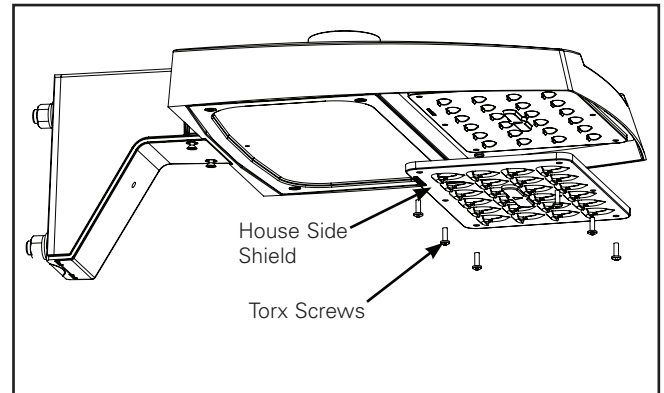

Figure 15.
2. Place house side shield over the optics. All six screw holes will align with the optic if the house side shield is installed correctly. (Figure 15)
3. Re-install all six torx screws and torque to 10 to 15 in-lbs. (Figure 15)